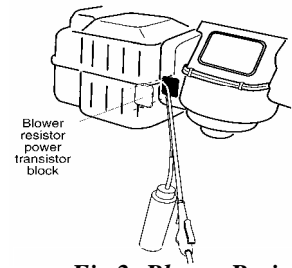

Fig.2: Blower Resistor
B. Remove Blower Resistor/Fin Sensor Access Panel, (fig. 2) or see applicable service manual